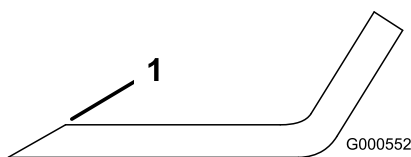

Figure 71
1. Use a file to sharpen the cutting edge at both ends of the blade (Figure 71).
Note: If the blade is not balanced, file some metal off the end of the sail area only (Figure 71).